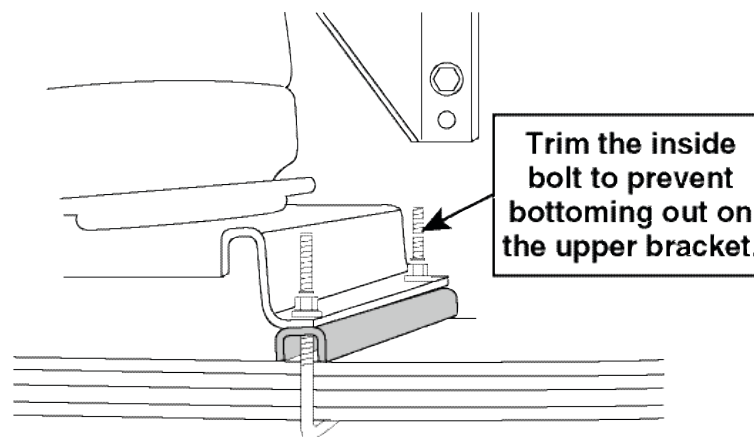

fig. 3
3. Trim the inside U-bolt if necessary to keep the bolt from hitting the upper bracket (Figure 3).